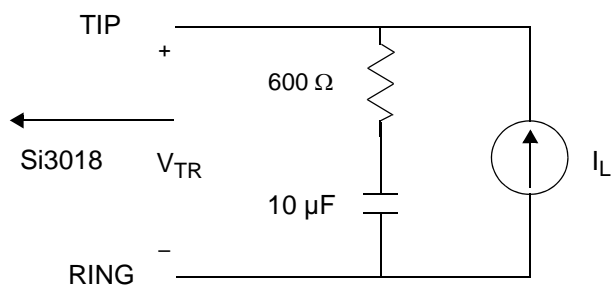

Figure 1. Test Circuit for Loop Characteristics
2. Measured at TIP and RING with 600 Ω termination at 1 kHz, as shown in Figure 1 on page 5.